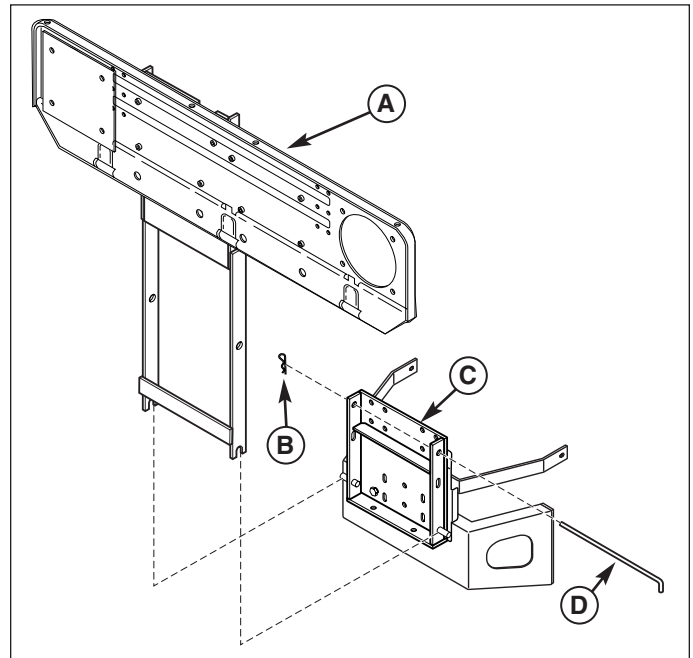

Figure 3. Install Back Plate
4. Set the back plate and support (A, Figure 3) onto pins of hitch plate (C). Secure with rod (D) and hair pin (B).